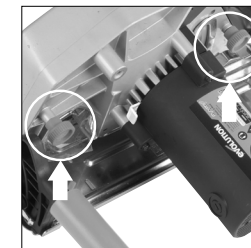

Fig. 1
2. Remove the chip collector from the machine by undoing the (2) large thumb screws. (**Fig. 1**)